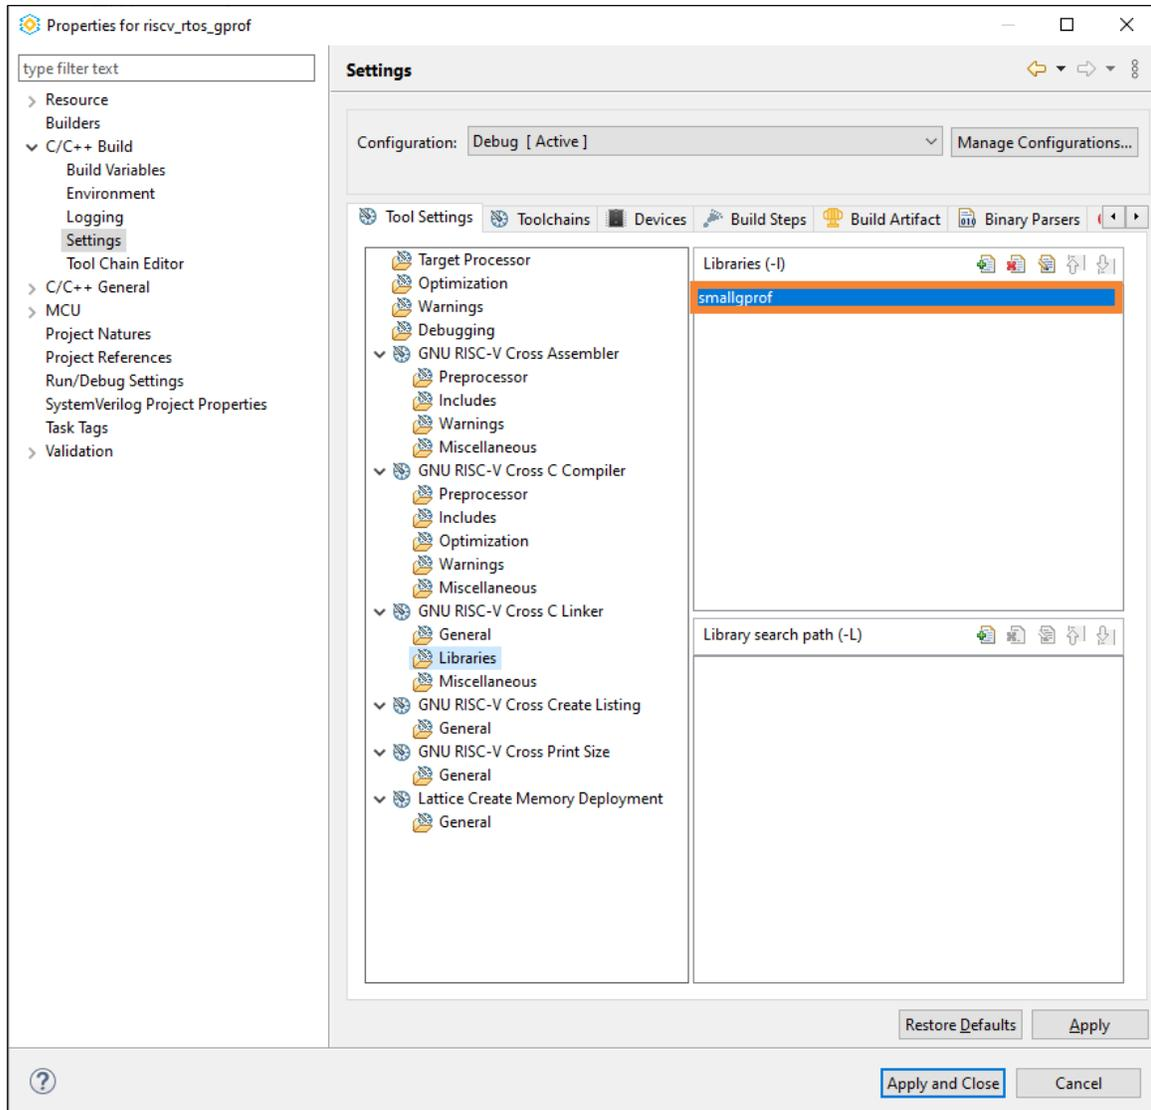

Figure 7.7. smallgprof Link Library
5. Select **GNU RISC-V Cross C Linker > Libraries**. Add the library, smallgprof (Figure 7.7).